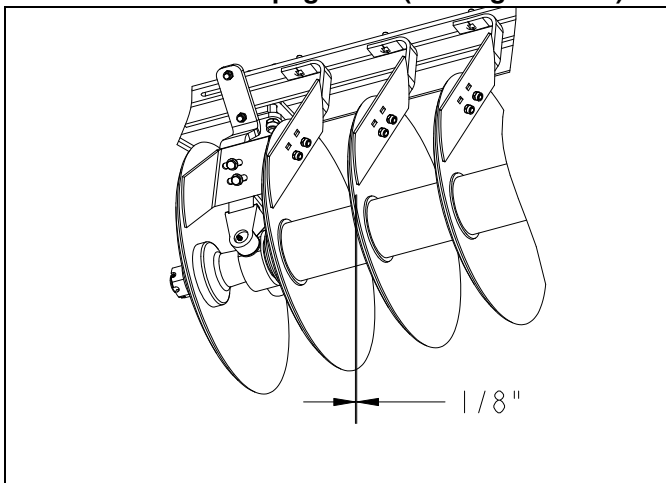

Figure 4-1: Disc Scraper Clearance to Disc Blade
5. Check disc scrapers for proper adjustment to the disc blade (See Figure 4-1.)